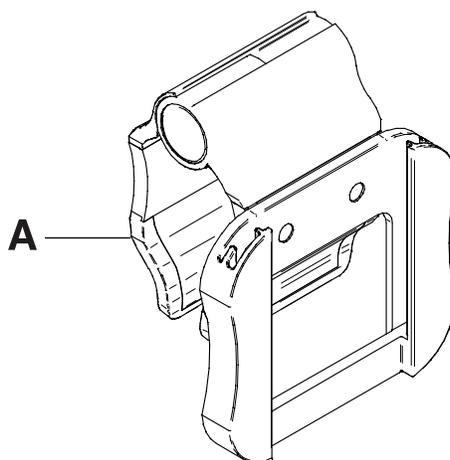

Figure 76: Patient control pendant clip
1. Raise the clip (A) (Figure 76 on page 80).